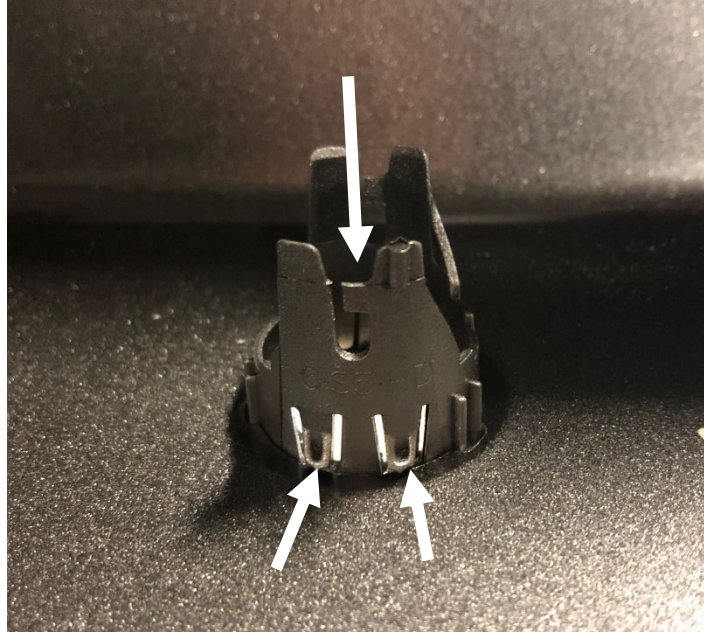

Figure 20
19. Remove the sensor housings from the bumper by pressing the retainer clips in on the sides and pushing the housing out. (Figure 20)